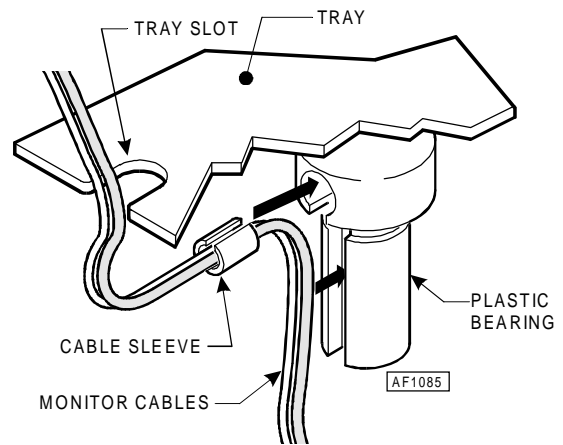

Figure 2
2. Insert the cable into the slot in the bushing and secure them in place using the plastic cable sleeve (See Figure 2). Leave enough slack in the cables to allow the monitor to tilt.